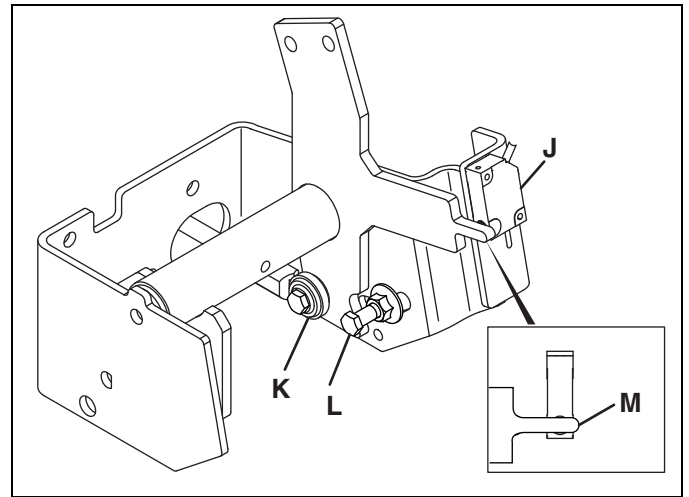

Figure 3E
4. Engage parking brake and set mow switch to Neutral. Make sure Neutral switch at traction pedal is closed. (Figure 3E - **M**). Distance between the sensing portion of switch and metal pointer **(M)** must be between 1/16 and 1/8 in. (1.5 and 3 mm).
bracket is centered over Neutral switch **(M -Figure 3E)**.